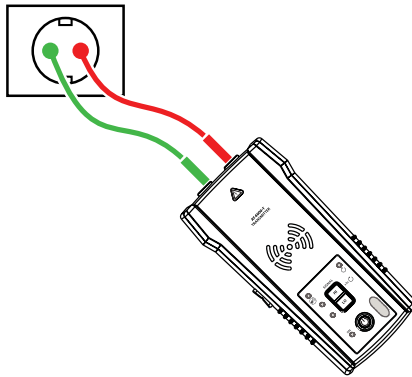

Figure 3.2a
3. Connect red and green test leads to line/phase and neutral wires of the same receptacle or cable (see figure 3.2a).